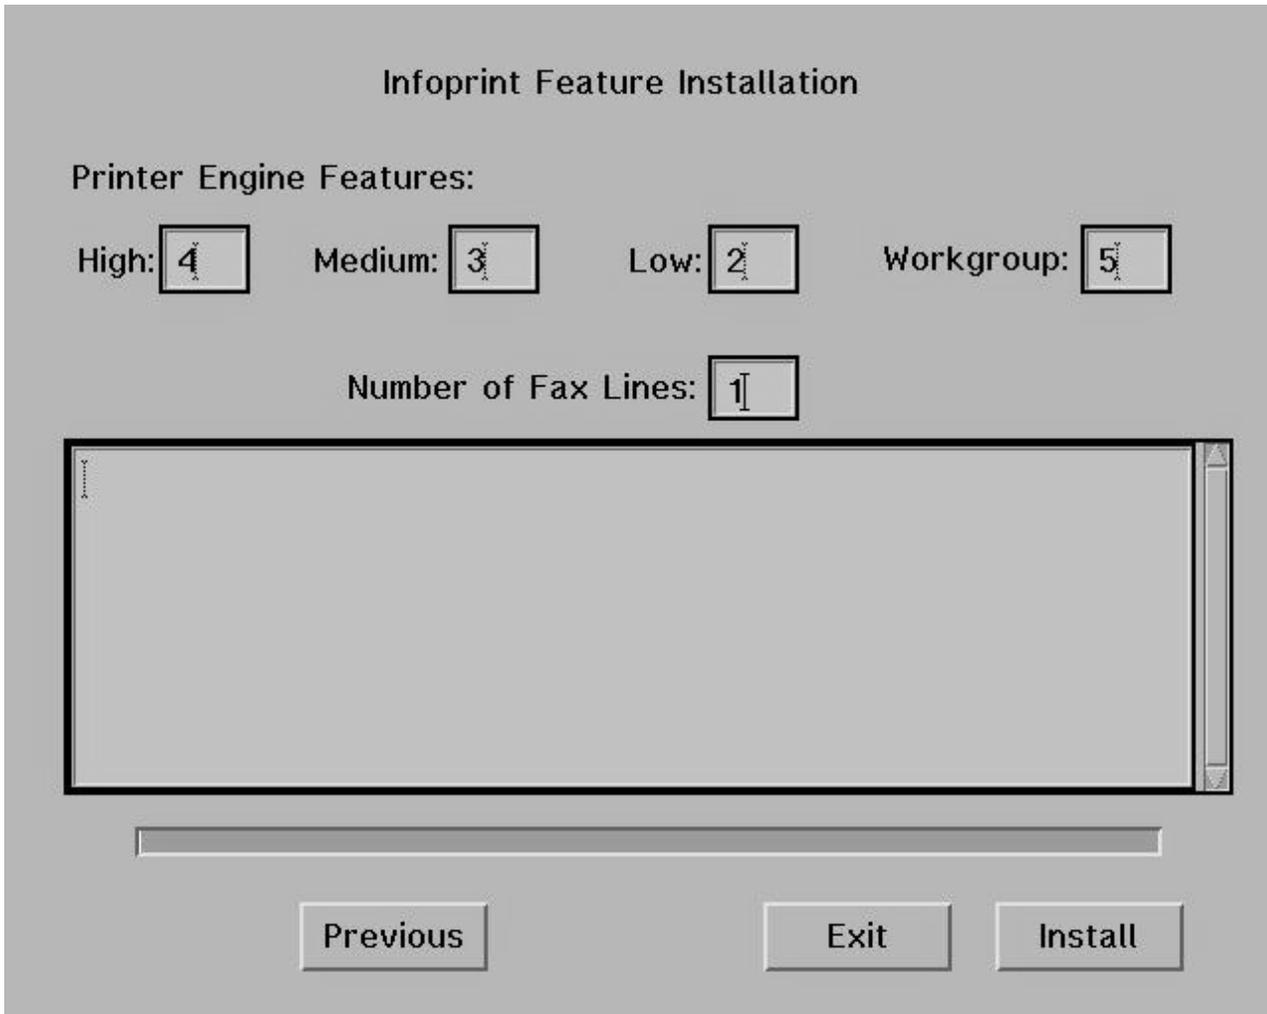

Figure 19. Infoprint Feature Installation panel: Adding Features
6. If you are adding the Fax lines feature or adding additional printers, update the appropriate fields with the printers or fax lines that you are adding. For example, if you are adding a single medium speed printer to your configuration, update the **Medium** field from 2 (defined and attached with the initial Infoprint install) to 3. If you are not adding either Fax lines or additional printers, click the **Install** button on Figure 19.